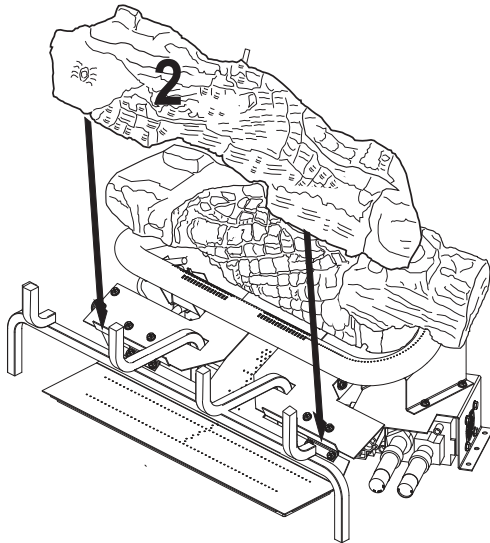

Figure 38 - Installing Log # 2
2. Place the middle log (#2) in front of the U-burner and against the edges of the plate as shown in **Figure 38, Page 21**.